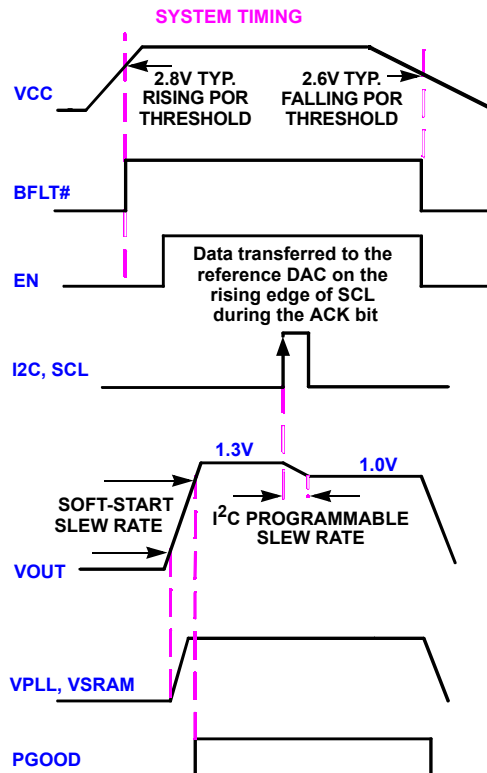

FIGURE 16. SYSTEM TIMING DIAGRAM
Upon application of input power to the ISL6271A, the power good signal (PGOOD) will switch from low to high after four conditions are met - (1) VCC exceeds the power on reset "rising threshold", (2) the EN pin is high and (3) the LDO input voltage (LVCC) is greater than 1.6V, (4) All three outputs are in regulation. Figure 16 illustrates this start-up sequence. The outputs are powered on under a soft-start regime with the core output voltage defaulting to 1.3V (unless under VID control) and the LDOs at their fixed output levels. Once the outputs are in regulation, the ISL6271A will respond to a voltage change command via the I²C bus.